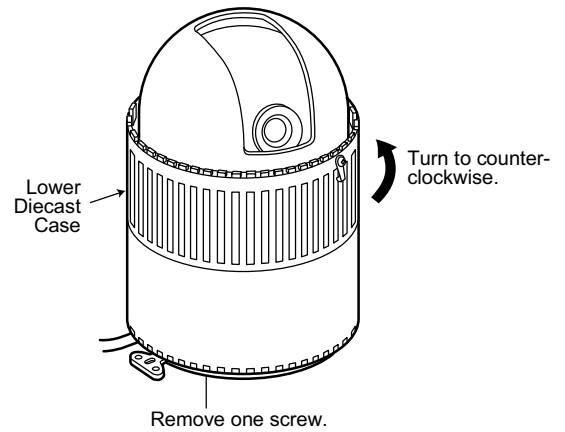

Fig. 2-2
- Referring to Fig. 2-2, remove one screw that secure the Lower Diecast Case, then turn the Lower Diecast Case to the counterclockwise direction and remove the Lower Diecast Case.